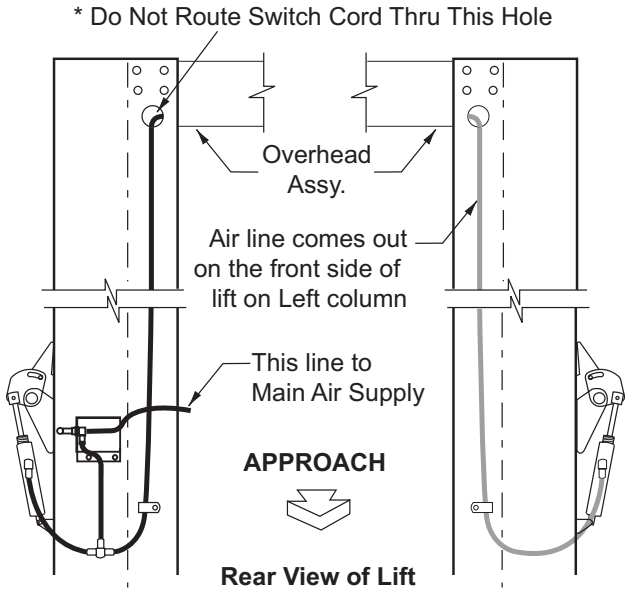

**Fig. 12**
- with rod in retracted position as shown below, Fig. 12.
- D)** Screw Bracket Clevis onto shaft, position, and tighten locknut securely, Fig. 12.
- H)** Slide one side of lower Pivot Pin (pre-installed & fixed in cylinder) into one half of the column Pivot Bracket. Install Pivot Bracket into column using (2) 1/4"-20NC x 3/8" lg. PHMS, Fig. 12.
- L)** Mount lowering switch and bracket to column using (2) 5/16"-18NC x 3/8" lg. PHMS, Fig. 12.